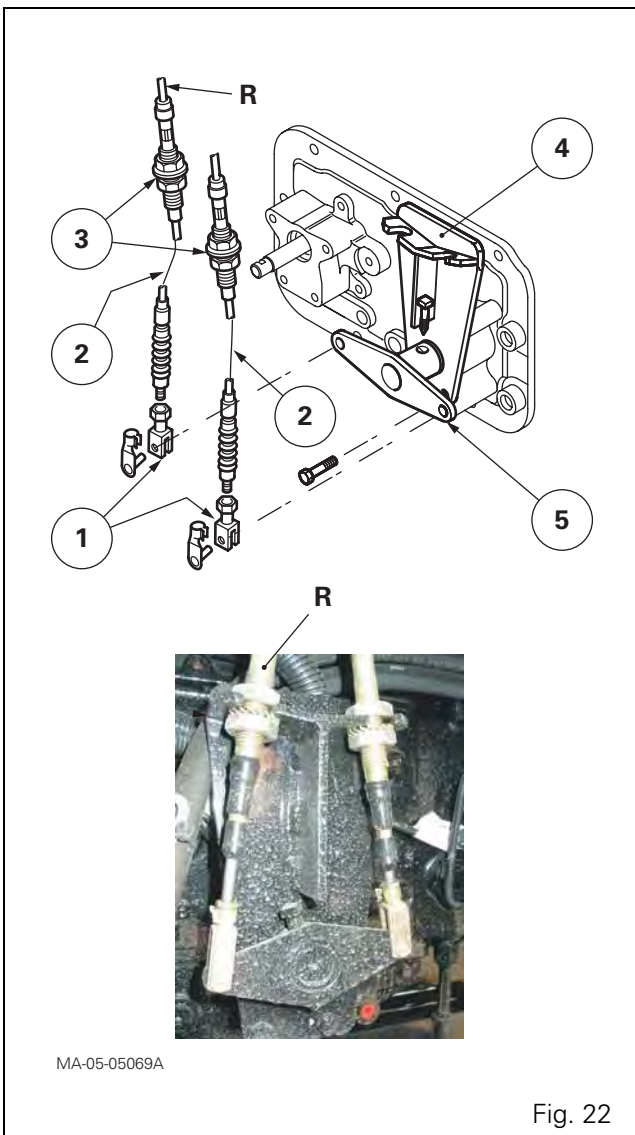

Fig. 22
Preparation (Fig. 22)
Assembly (Fig. 22)
96. Slide the sheath ends (3) into the slots provided on the support (4).
IMPORTANT: The cable fitted with an adhesive colour strip must be fitted in the left-hand slot in the support (4). The adhesive strip can be stuck anywhere on the cable and is represented by the letter R in Fig. 22.
97. Place the rod (5) in neutral (Fig. 22).
98. Fit the clevises (1) to the rod.